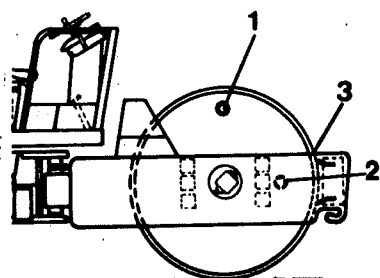

Fig 55 Filling with oil
3 Drive the roller onto a level surface so that the plug (1) is at its highest position (see Fig 55). Later models are also fitted with a level pin (3), which should be level with the top of the frame member when the plug is at its highest position.